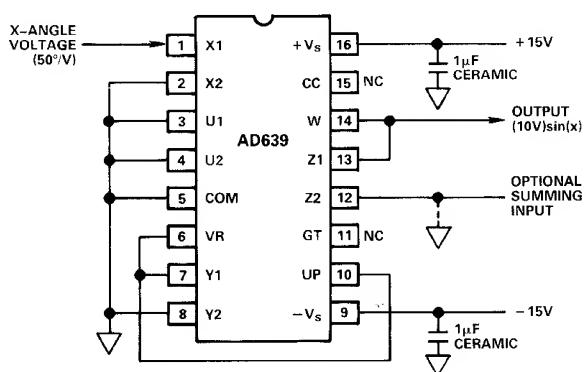

Figure 2. Connections for the Sine Mode with Amplitude Preset to 10V
The AD639 can generate either (1) a low-distortion continuous sinewave from a repetitive triwave input or (2) a high-accuracy sine function for use in computational applications. In most cases, the choice of preset or externally-controlled amplitude will make little difference to distortion or accuracy, and both methods are used in this section. In all of the *normal* modes, the Z2 input can be used either to sum a further signal to the output (or introduce an optional output offset trim). The denominator is set to unity by making $y = 90^\circ$, using the +1.8V output. Figure 2 shows typical connections. The 10V preset is selected, using V_r as a control input to UP, and the ideal output is $(10V)\sin(x)$. In practice, five basic types of error arise:
1. *X-angle scaling error*: The amount by which the angle generated for each volt of X-input differs from 50° . In triwave-to-sinewave (CW) applications this introduces odd-order harmonic distortion, and is indistinguishable from an incorrect triwave amplitude.